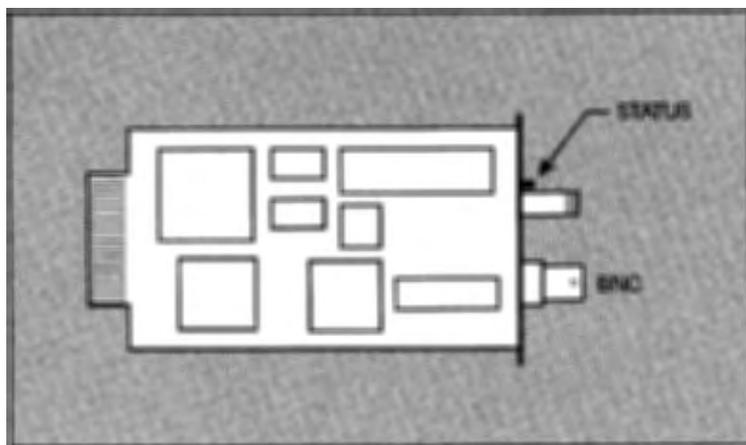

Figure 2-1. The ThinLAN card
ThinLAN Card: If you have the ThinLAN adapter card, no hardware configuration is necessary (see Figure 2-1).
17. With the printer on-line, press the STATUS button on the adapter card to print a Status page. (If you are unfamiliar with the STATUS button, it is located underneath the card handle and is labeled STATUS [see Figures 2-1, 2-2, or 2-3].)